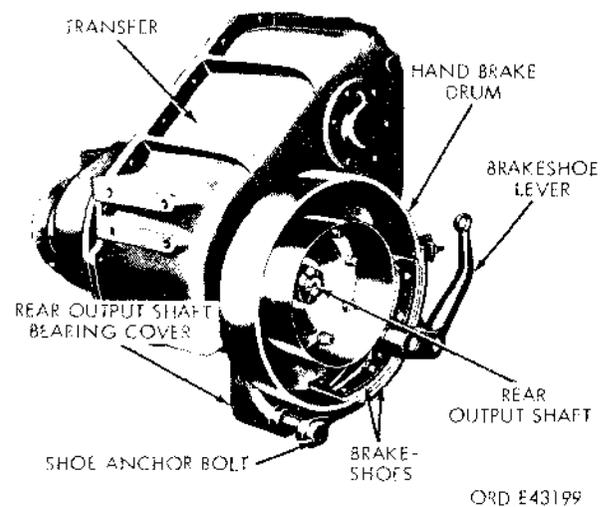

Figure 2-176. Handbrake mounted to rear of transfer.
b. Hand Brake. Handbrake components include a brake drum (fig. 2-176) and a pair of brake shoes mounted at the rear of the transfer. In addition, a cable is connected to the handbrake lever in the cab. The drum is bolted to the transfer rear output shaft. The two brakeshoes are pinned together and then bolted to a bracket extending from the transfer rear output shaft bearing cover.